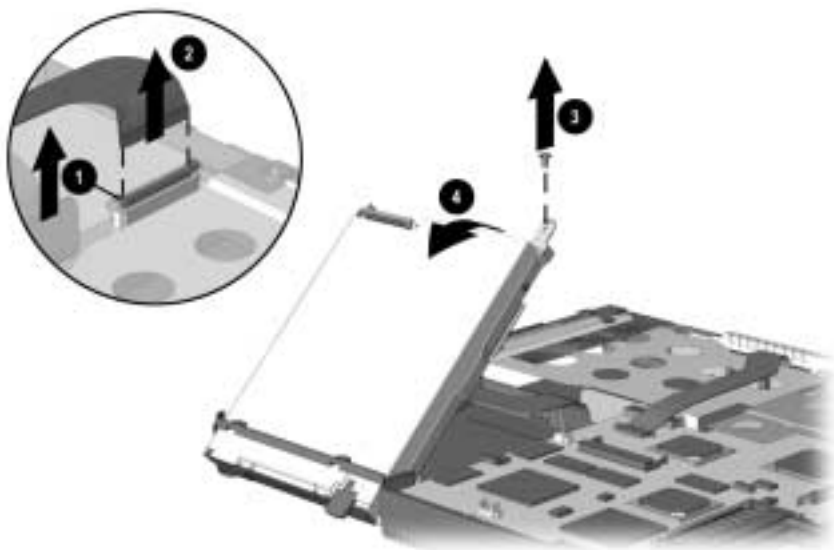

Figure 5-23. *Removing the Diskette Drive*
2. Release the ZIF connector that connects the diskette drive **❶** (Figure 5-23).
3. Disconnect the diskette drive cable **❷**.
4. Remove the screw that secures the diskette drive to the base enclosure **❸**.
5. Lift up on the back of the diskette drive **❹** and remove it.